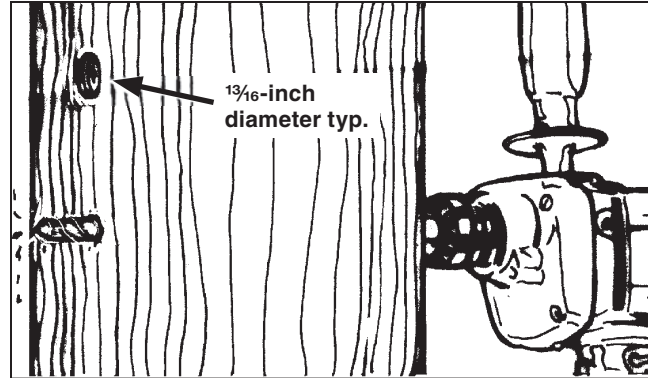

Figure 2. Drill holes for switch-mounting bracket.
**STEP 1.** Drill two  $\frac{13}{16}$ -inch diameter holes through the utility pole for attachment of the pole-top switch-mounting bracket. See Figure 2. Refer to the erection drawing.